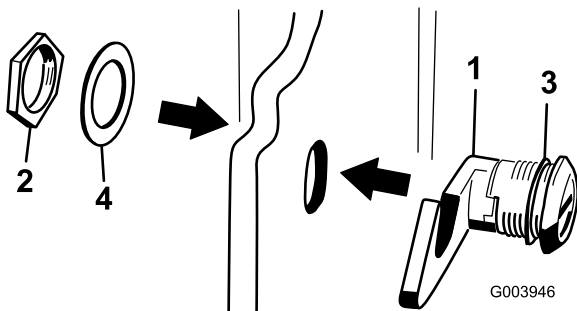

Figure 16
3. Remove the nut from the hood latch assembly (Figure 16).
rubber sealing washer remains to the outer side of the hood (Figure 16).